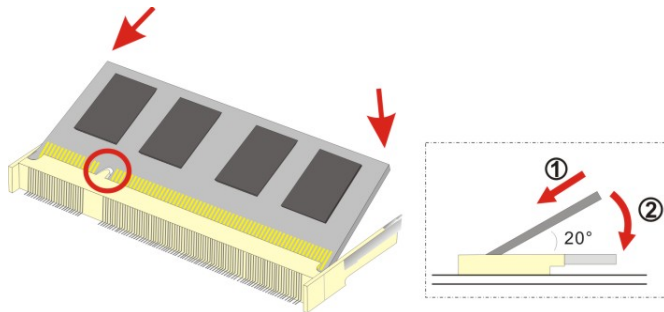

Figure 7-2: SO-DIMM Installation
Step 4: Align the new SO-DIMM with the socket. The SO-DIMM must be oriented in such a way that the notch in the middle of the SO-DIMM must be aligned with the plastic bridge in the socket (**Figure 7-2**).
(Figure 7-2).
- Step 6:** **Open the SO-DIMM socket arms.** Gently pull the arms of the SO-DIMM socket out and push the rear of the SO-DIMM down. (See **Figure 7-2**)